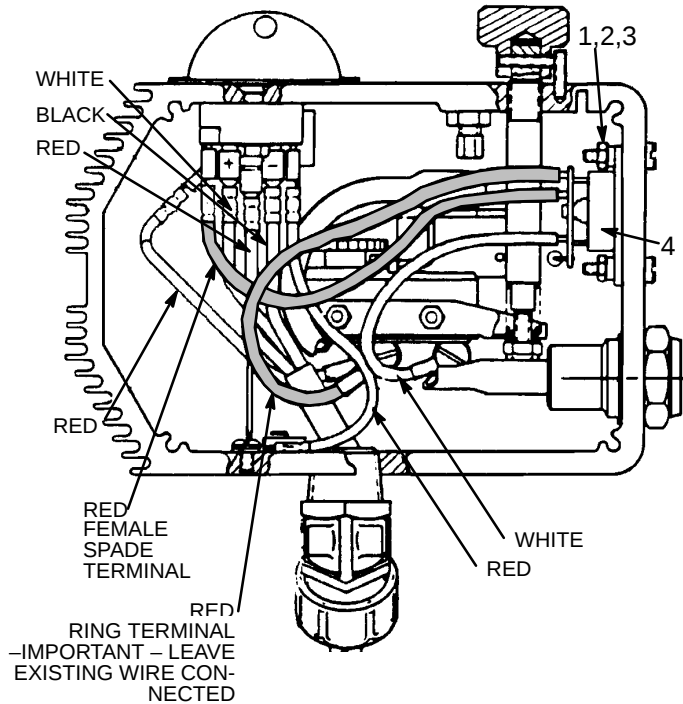

Fig 3
5. Install the triac with the screws, washers and nuts provided. See Fig 3.
Connect the red wire with the ring terminal to the middle screw of the pressure switch along with the existing ring terminal. See Fig 3.
Connect the red wire with the spade terminal to the open spade of the rectifier. See Fig 3.
Connect the white wire of the triac to the right hand screw of the pressure switch. See Fig 3.